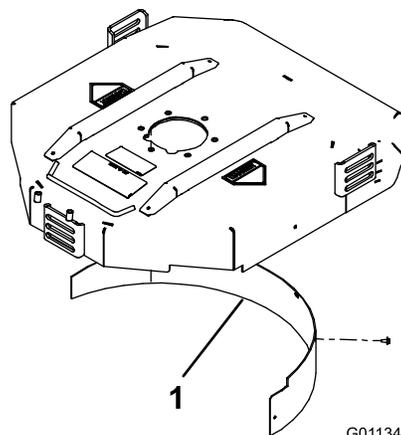

Figure 15
2. Install the mulching baffle in the rear opening and secure it with 5 flange-head bolts (Figure 15).